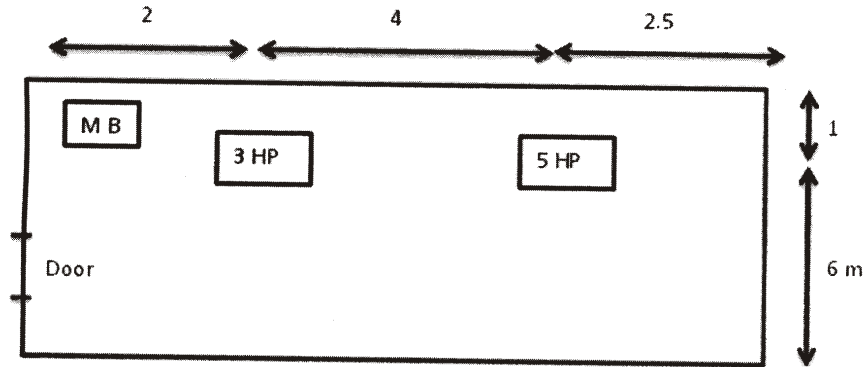

Fig. 2 : Plan of work
14. Two 3-phase, 400 V induction motor are installed in a workshop of plan shown in Fig. 2 :